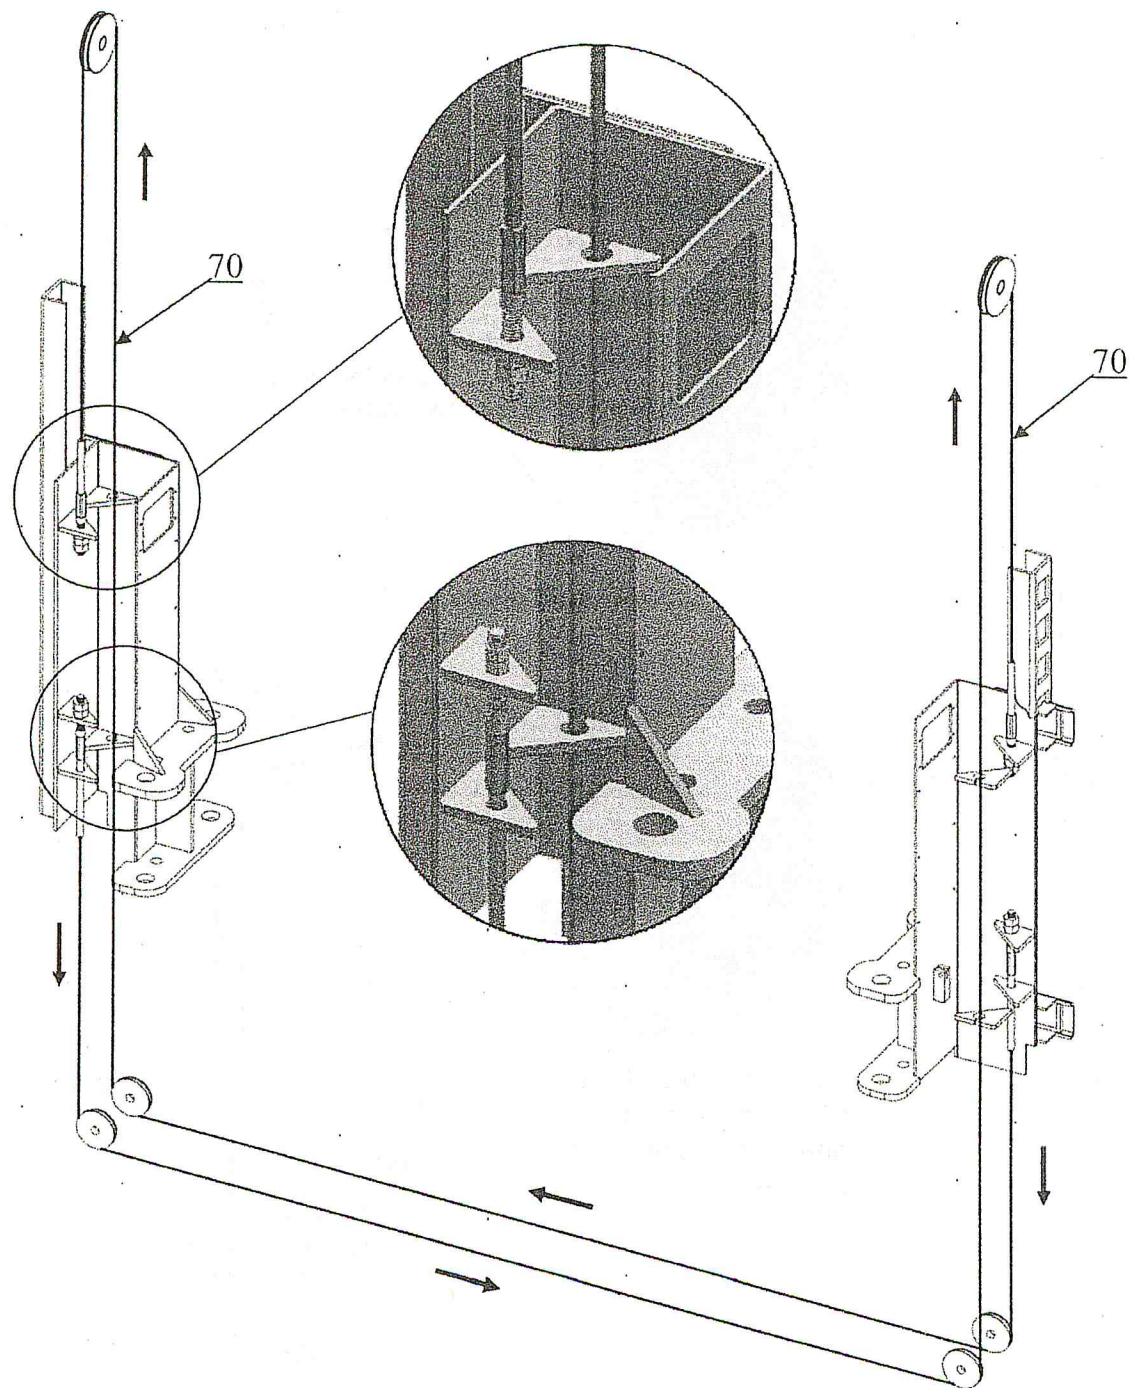

Fig. 21
2.2. Pass the cable through as shown below(See Fig. 21).